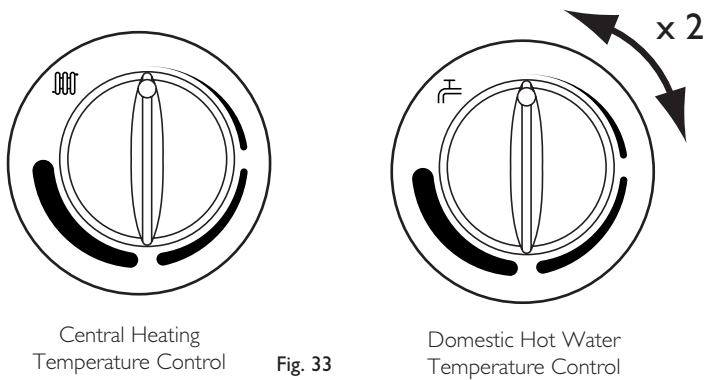

Fig. 33
5. Turn both temperature control knobs fully anticlockwise, then quickly turn the DHW temperature knob 1/4 clockwise twice and back fully anticlockwise (Fig. 33).